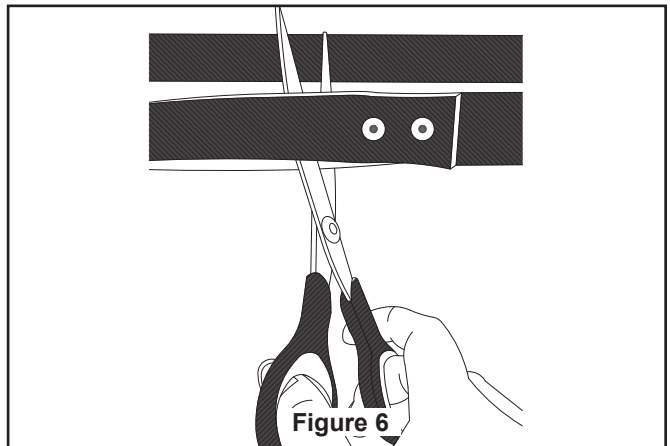

Figure 6
4. Trim the excess belting as shown. The overlap should be approximately one to two inches in length. (Figures 6 & 7)